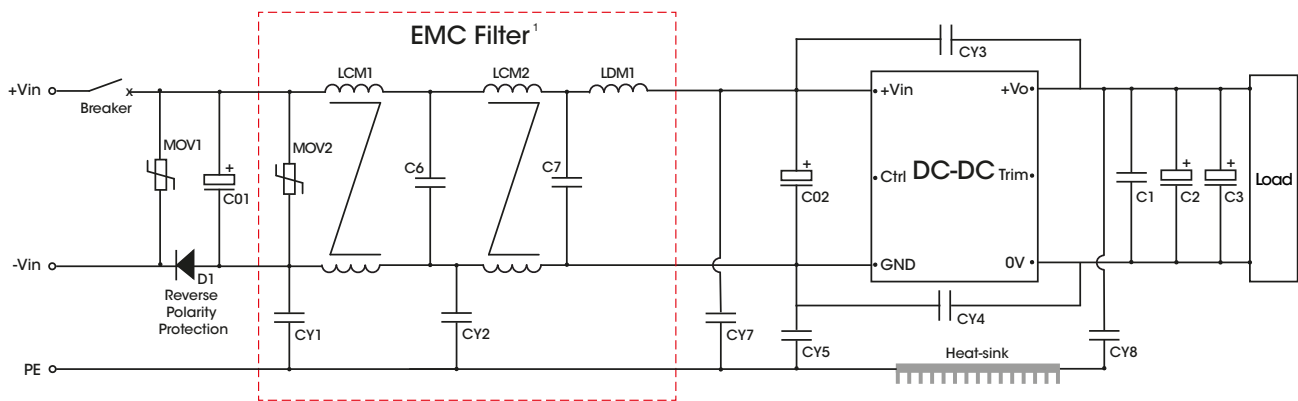
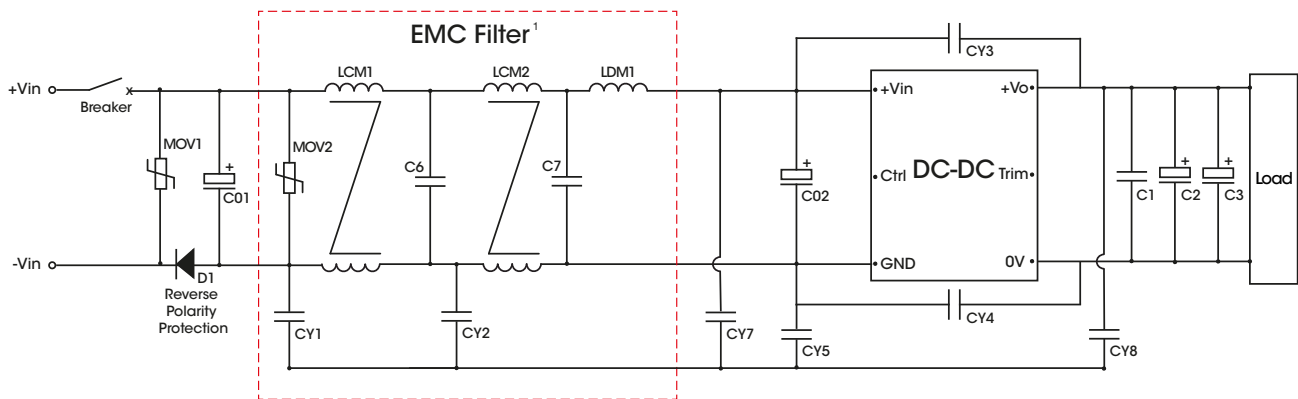

Figure 6. Recommended EMC Filtering with PE
Figure 7. Recommended EMC Filtering without PE
2. EMC Filter will be provided in a modular form, here is a recommended circuit and parameters, as shown in Fig. 6 and Fig. 7. Users can also build it themselves.